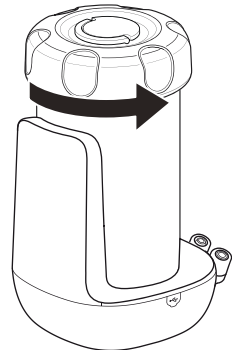

Figure 5.11 – Unlocking Filter Cartridge
3. Turn the filter cartridge 90 degrees counterclockwise and lift off base (see Figures 5.11 & 5.12).